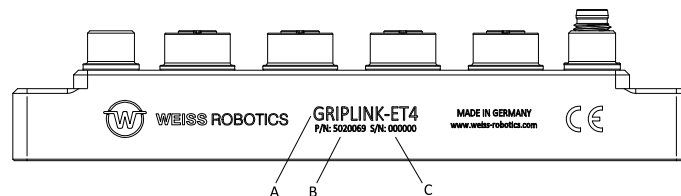

Figure 3 : Name plate
The nameplate (Figure 3) is located on the side of the GRIPLINK controller and contains the serial number (C), part number (B) and the exact type designation (A).